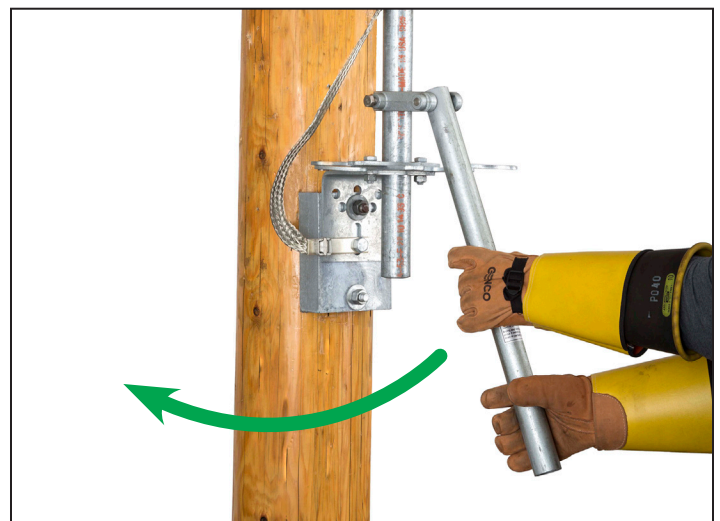

Figure 25. Rapidly swing the manual operating handle.
- (c) Swing the handle rapidly to the fully open or fully closed position. Check that all three poles are fully open or fully closed. See Figure 25.